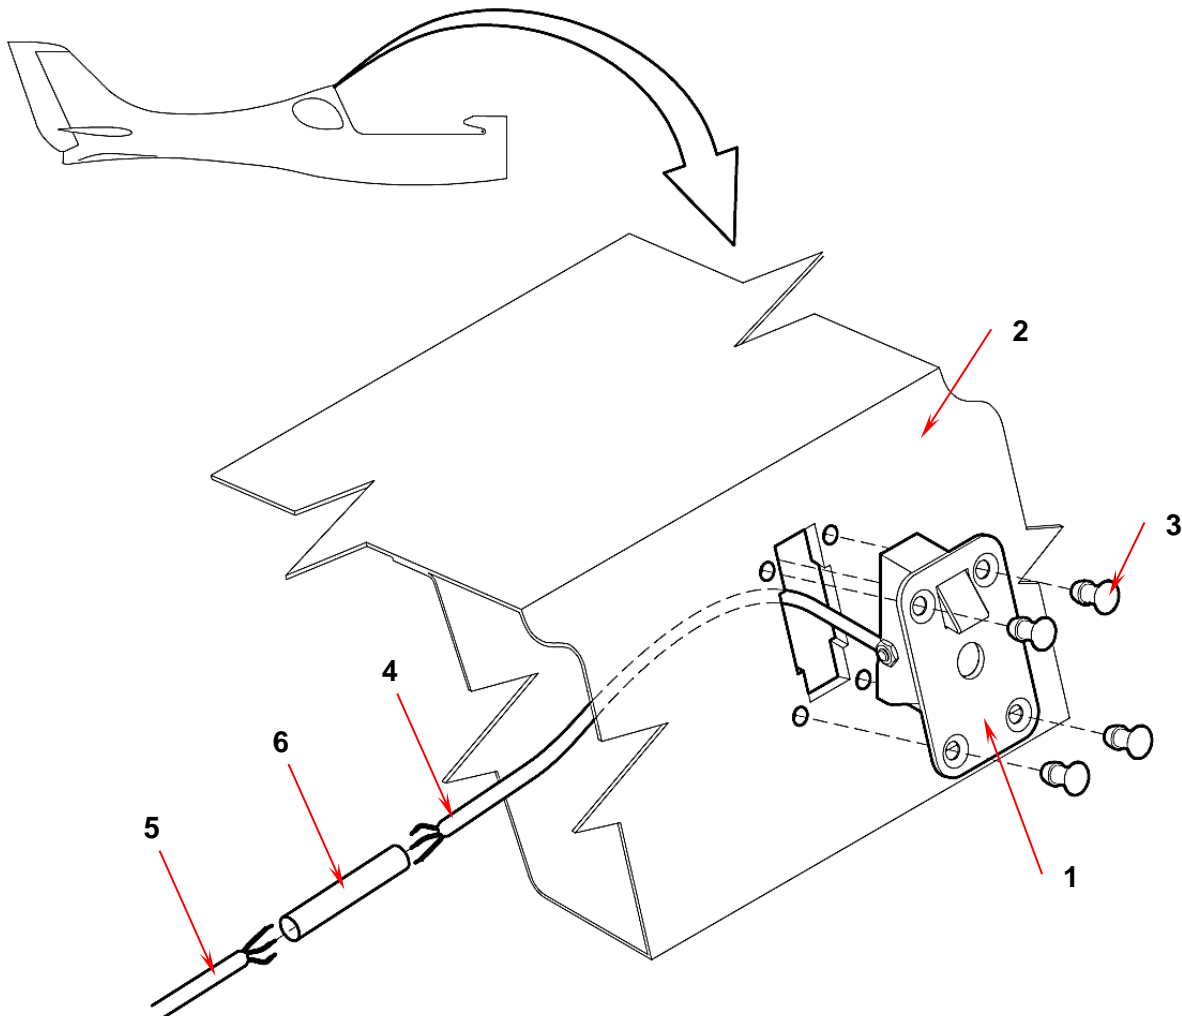

Fig. 1
The aircraft may be equipped with a canopy lock socket with safety latch and sensor (Fig. 1) installed in the fuselage. The yellow check lamp "CANOPY" illuminates on the instrument panel when the canopy is partially locked (the latch is plugged-in less than  $5\text{ mm} \pm 0.3\text{ mm}$ ).
- a) Drill out the rivets (3, Fig. 1).
- c) Remove the canopy lock socket (1, Fig. 1) from the fuselage (2).
- d) Pull out the cable, remove insulation (6) and unsolder the wires (4, 5).
- a) Pull the insulation (6, Fig. 1) on the cable (5), solder the wires (4, 5) according to wiring diagram (Fig. 5).
- b) Place and apply heat to shrink the insulation (6, Fig. 1).
- d) Place the canopy lock socket (1, Fig. 1) on the fuselage (2) and attach it by rivets (3).
- a) Remove the canopy lock socket (1, Fig. 1) according to chapter 1.1.
- e) Install the canopy lock socket (1, Fig. 1) according to chapter 1.1.